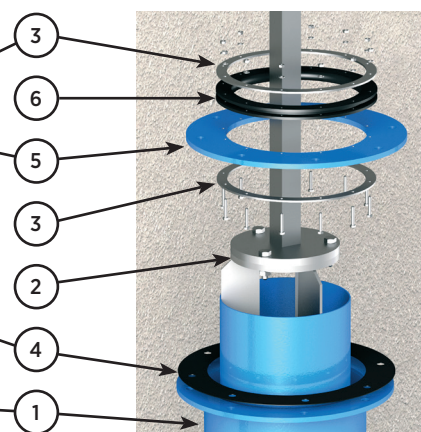

Fig. 12
5. Once in place above the obturator flange (2), release and remove the bolts from the fastening flanges (3) of the gasket (fig. 12).
6. As the gasket (6) is not fastened, remove it from the seal support flange (5) and clean the housing for the new seal (6) to be correctly seated.
7. Position a new gasket (6) on the support flange (5), with the same dimensions as the one removed, ensuring that the two ends seal perfectly together.
8. Bolt the two attachment flanges (3) on the gasket (6).
9. Bring down the support flange (5) with the seal (6) and its flanges (3) until it is in its original location, i.e. on the flange of the body (1).
10. Ensure that the seal (4) between the two flanges is in a good state and free of any residue.
11. Bolt the seal support flange (5) crosswise on the body (1).
12. Once the gasket has been replaced (6), it is recommended to carry out several operations without load in order to check the valve works properly.